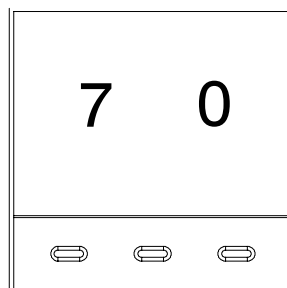

FIGURE 4. CH SERIES TEMPERATURE CONTROLLER
1. TEMPERATURE CONTROLLER (see Figure 4)
(see Figure 4)